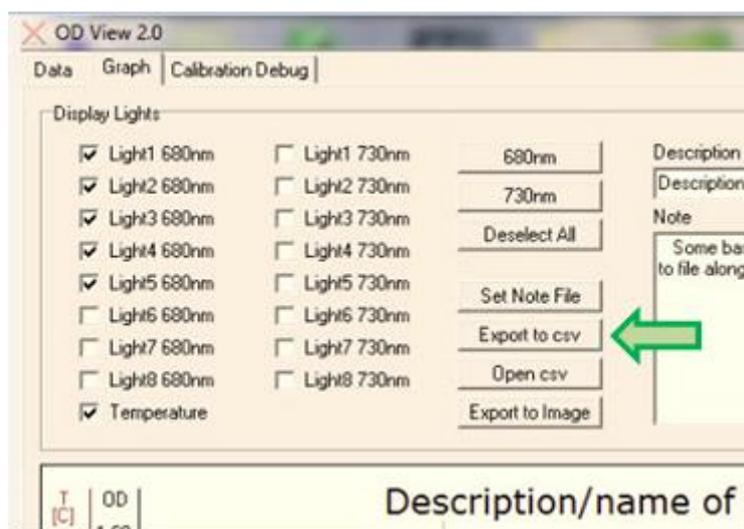

Fig. 27 Data export and data selection functions window
- The logged data can then be exported to .csv file using the buttons shown in Fig. 27 and further analyzed as required using a spreadsheet program such as Excel.